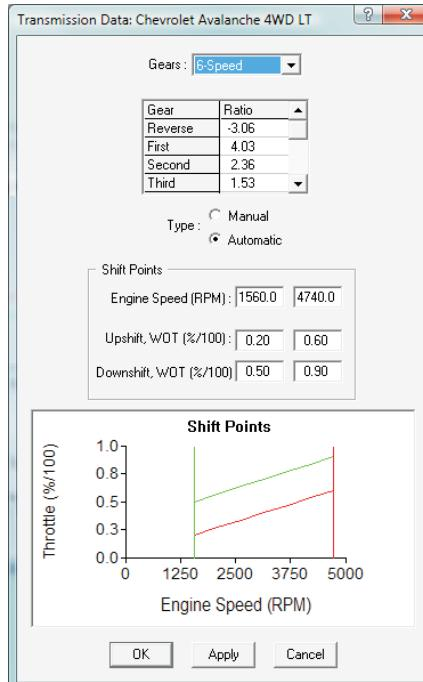

Figure 2 - Transmission gear ratio table
**Transmission and Differential Data** – These are tables of gear ratios for the transmission and differential, and are included as part of the Drivetrain Dialog; see Figure 2.